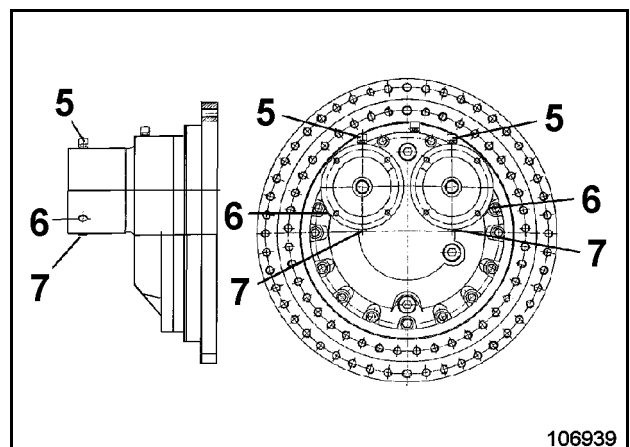

Fig. 3-134:
- Unscrew checking screw (6, Fig. 3-134:). The oil level should reach up to the lower edge of the opening. Top up with oil, if required (see: "Brake chamber, changing oil").
- Screw checking plug (6) back in place.